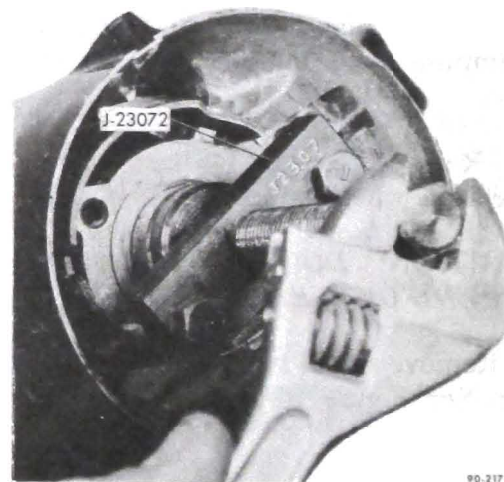

Figure 90-142 - Removing
25. Remove shift tube from bowl using Remover J-23072. Pilot adapter in upper end of shift tube and force tube out of bowl. Care should be taken not to jam lower shift lever into "T" slot on lower end of mast jacket while forcing out shift tube. See Figure 90-142.